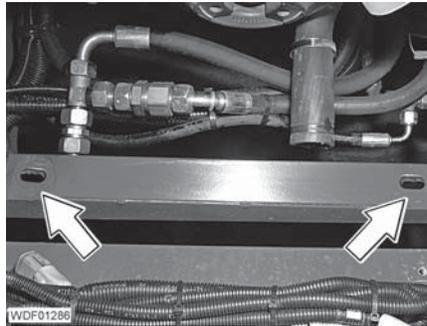

Fig. 77 Attachment points
- Put in the radiator carefully so that the screws on the underside of the radiator engage in the attachment point slots (Fig. 77).